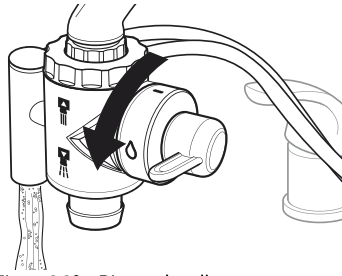

Figure 3.30 – Diverter handle to Horizontal (Filter) Position
1. Select cold water at the kitchen faucet and turn the faucet on. Rotate the diverter handle to the horizontal (filter) position (see Figure 3.30). This will begin the water flow to the filter system.